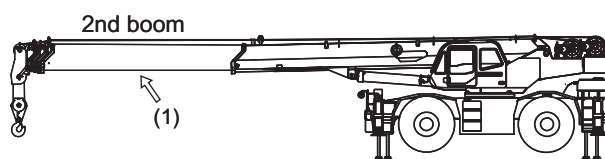

Fig.2
Sides and Lower sides of Boom, Wire ropes (for boom telescoping) (Fig 2,3)
3. Fully extend the 2nd boom section in Boom telescoping mode I, and then supply grease to the points shown in Fig. 2.